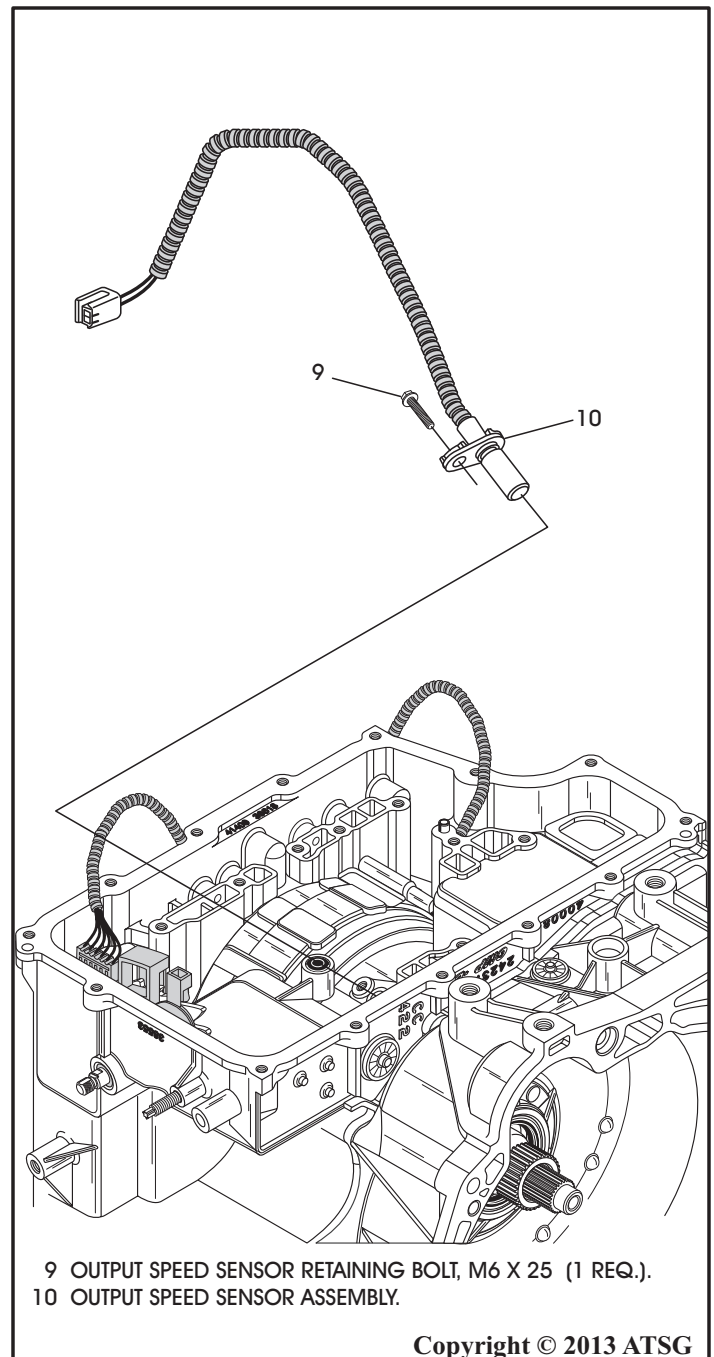

Figure 216
54. Install the output speed sensor into the case bore, as shown in Figure 216.